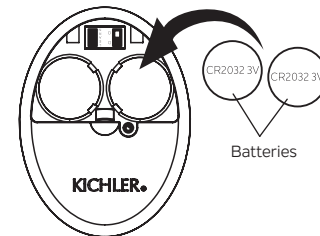

Fig. 26
Step 2. To make fan operational, install two 3V CR2032 batteries (included). The batteries should be installed with the positive (+) side up. Replace with CR2032 batteries when necessary. (Fig. 26)